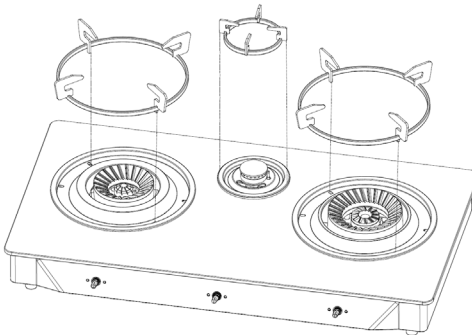

Figure 3
3. Clean the labels and put the trivets on correct positions (see Figure 3).